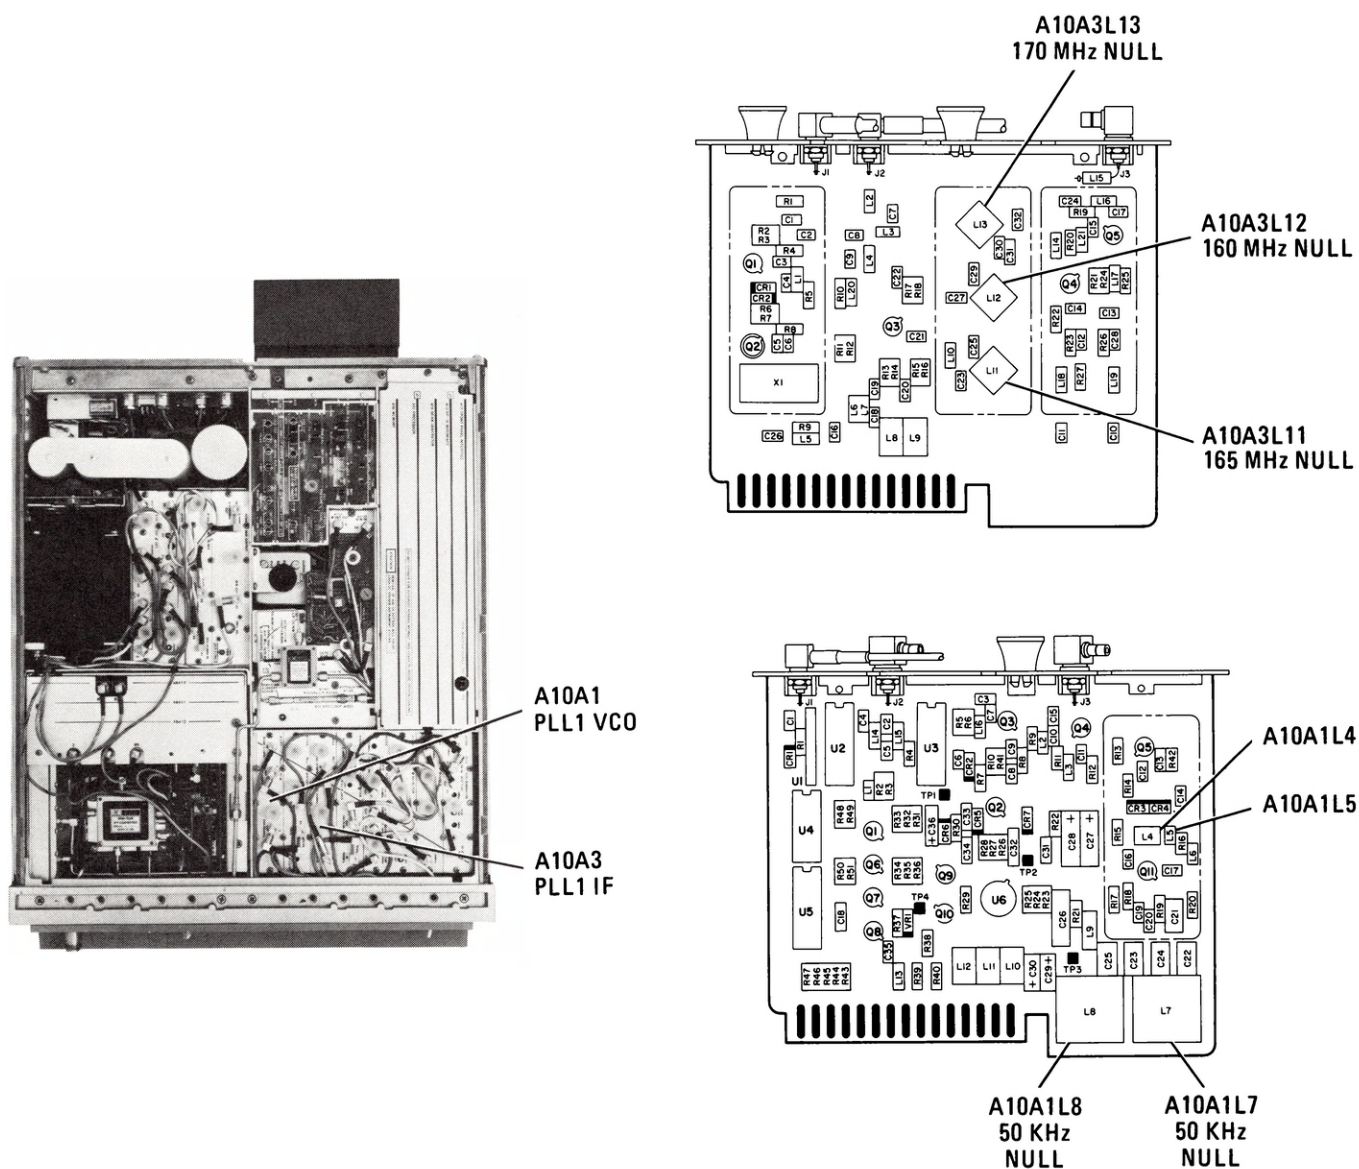

Figure 5-55. Location of PLL1 Adjustments
8. Adjust A10A1L7 and A10A1L8 50 kHz NULL adjustments to null the 50 kHz signal displayed on the 8557A Spectrum Analyzer. Refer to Figure 5-55 for location of adjustments.